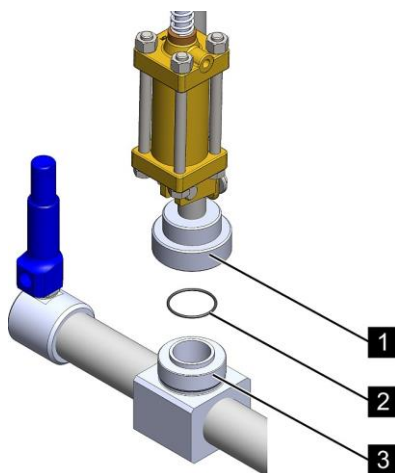

Fig. 101: Using O-ring
1. ➤ Grease the O-ring (Fig. 101/2) and O-ring seat and insert it into the flange connection (Fig. 101/3) on the distributor.
2. ➤ Fasten the selector valve with flange (Fig. 101/1) on the distributor.